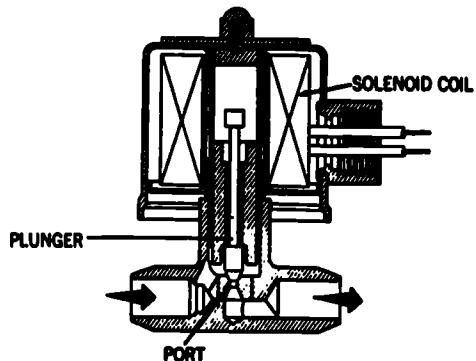
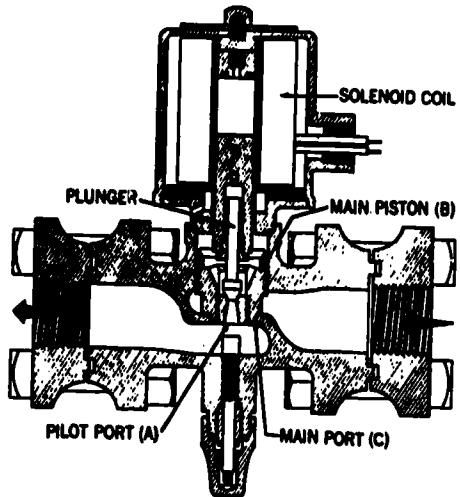

Fig 4-5. Solenoid (direct-acting).
Fig 4-6. Solenoid (pilot-operated).
SOLENOID VALVES in refrigeration systems automatically close off or open a circuit to produce the desired refrigerating effect. It is simply an electromagnetic device with a moveable core (center) and an armature. This armature (made of iron alloy) is attached to a moveable needle. The basic principle of a solenoid is illustrated in figure 4-5. When the solenoid coil is energized, the magnetic armature, or plunger, moves upward toward the center of the coil, thus opening the valve. When the circuit opens, the coil de-energizes and the spring and the weight of the plunger forces the valve against the valve seat, thereby closing the valve.
There are two basic types for solenoid valves that you may find in use: the DIRECT-ACTING (fig 4-5) and the PILOT-OPERATED (fig 4-6). In the direct-acting type, the pull of the coil opens the valve port directly by lifting the pin out of the valve seat. Since this valve depends solely on the power of the solenoid coil for operation, its port size, for a given pressure differential, is limited by the coil size.
Large solenoid valves are usually of the pilot-operated design. With this type, the solenoid plunger does not open the main port directly, but merely opens the pilot port (A), refer to figure 4-6. Pressure trapped on top of the piston (B) is released through the pilot port, thus creating a pressure imbalance across the piston (B). Because the pressure underneath is now greater than the one above, the piston moves upward. This opens the main port (C). To close port (C), the coil is de-energized, causing the plunger to drop and close the pilot port (A). Now the pressure above and below piston (B) equalizes. Piston (B) will close the main port (C). The pressure difference across the valve, acting on the area of the valve seat, holds the piston closed tightly.